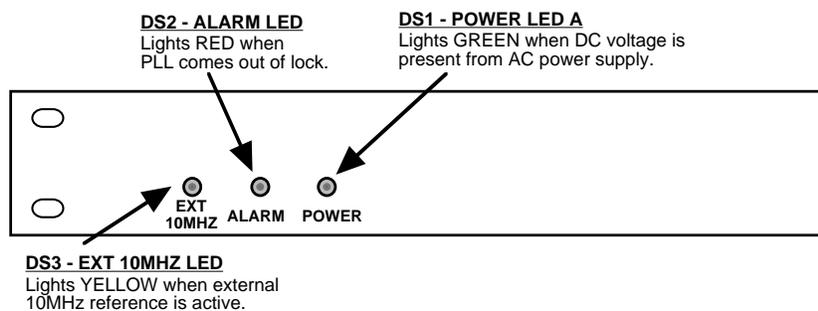

FIGURE 2.2 2116-310T212 Front Panel Controls and Indicators
Figure 2.2 shows the front panel indicators.
4. Be sure DS1 (green, DC Power) is on and DS2 (red, Alarm) is off (Figure 2.2).
6. If EXT is selected or AUTO is selected and there is a 10MHz, 3 dBm signal at J2, check that DS3 (yellow, Ext 10MHZ) is on (Figure 2.2).